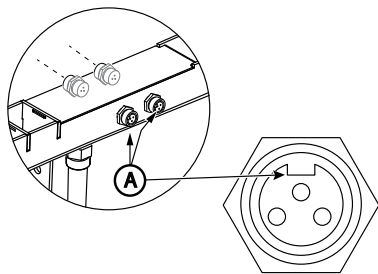

Figure 12. 3-Pin DIN Female Connector
1. Locate the 4 key-lock female 3-pin DIN connectors on the T-bar as shown in Figure 12.
2. Next, locate the slot or key (A) on each female connector as shown in Figure 12.